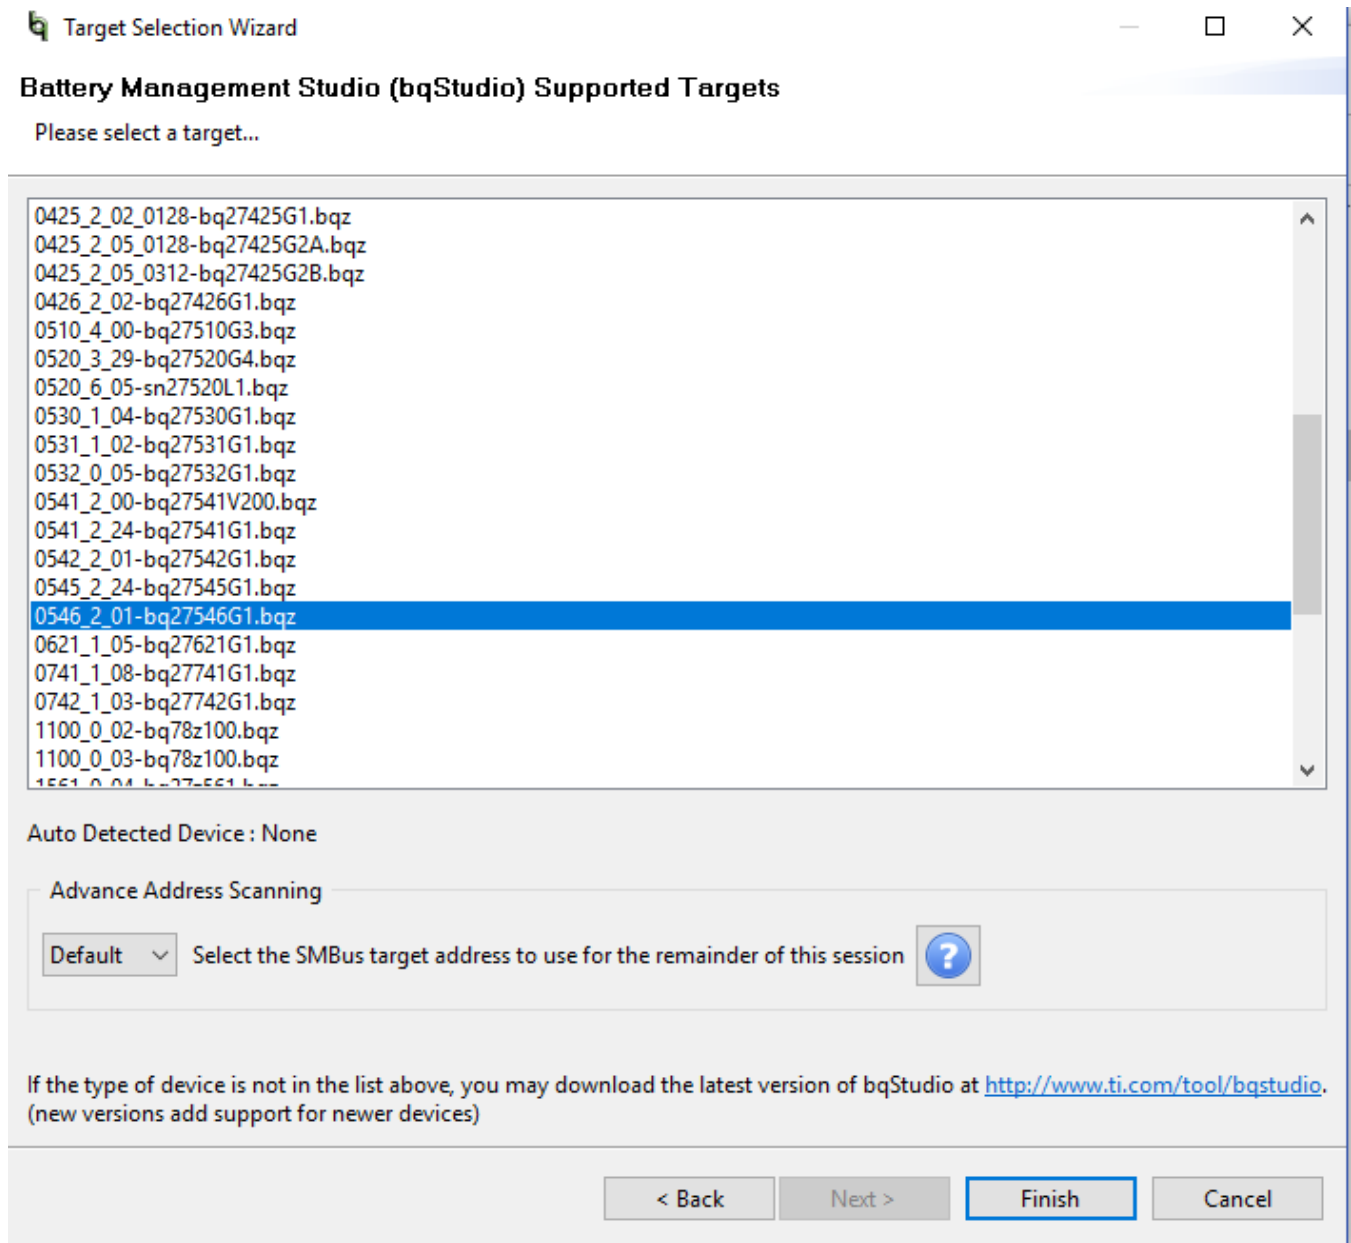

Figure 2. Non-auto detection of device firmware by bqstudio
Upon startup of bqstudio, the device should be automatically detected. If that isn't the case, and a screen as seen in Figure 2 appears, then you need to check to make sure your device is properly powered on and that your gauge IC isn't damaged. Also, check to make sure you are connected to the I2C port on the EV2300 and on the EVM.
- Select gauge from the device type as shown in Figure 2 . Then select the 0546_2_01-bq27546G1.bqz from the next window that pops up.